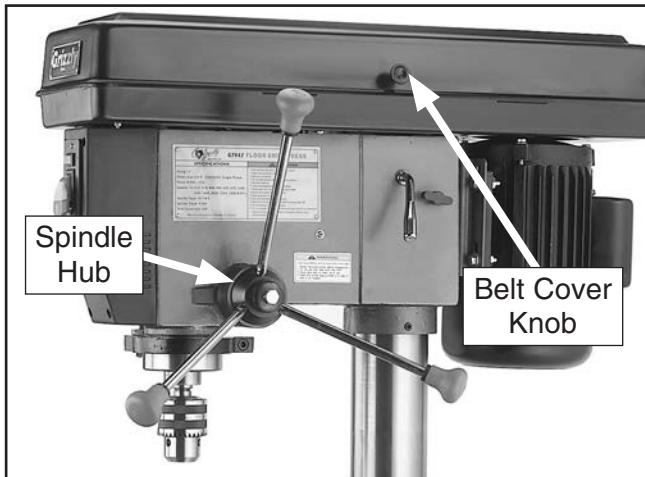

Figure 24. Downfeed handles and belt cover knob installed.
- 21.** Thread handles into spindle hub, as shown in **Figure 24**, and tighten.
- 22.** Remove screw that fastens belt cover in place and replace with belt cover knob (see **Figure 24** for location).